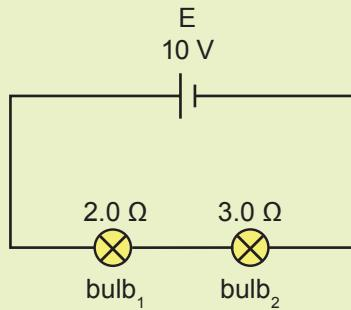

Figure 4.20
1. Figure 4.20 shows a circuit with two light bulbs connected in series.